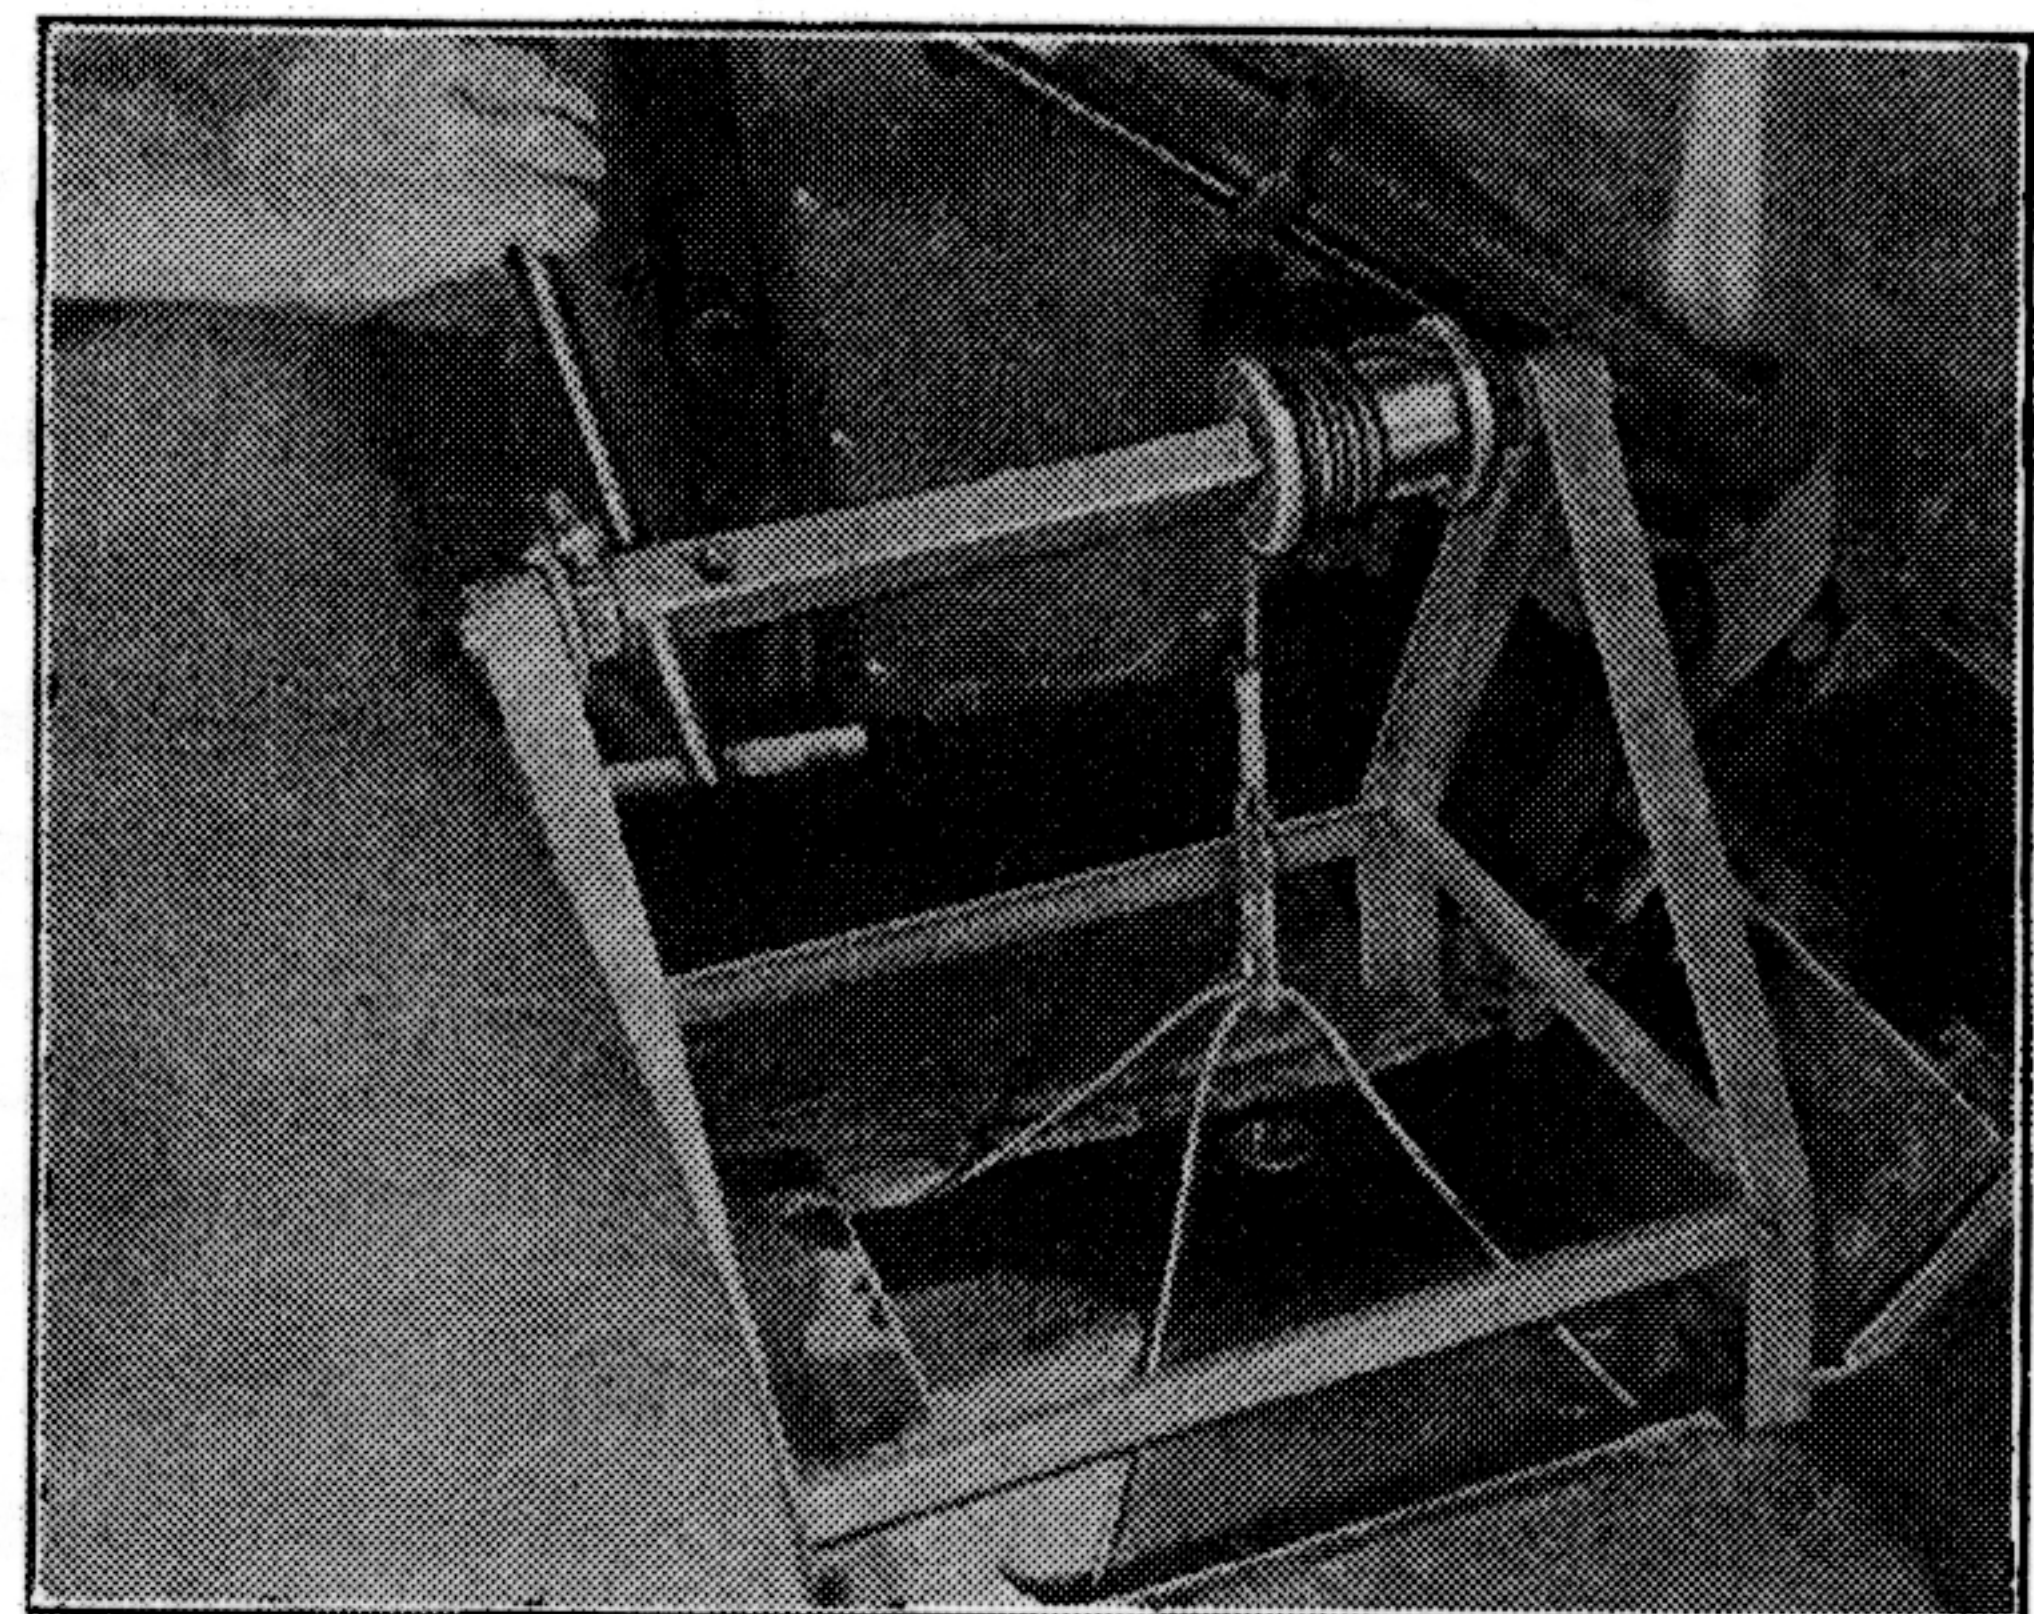

Fig. 15. Transmission Removal
13. Place transmission lifting tool, J-1129, in front compartment over floor opening. See Fig. 15.